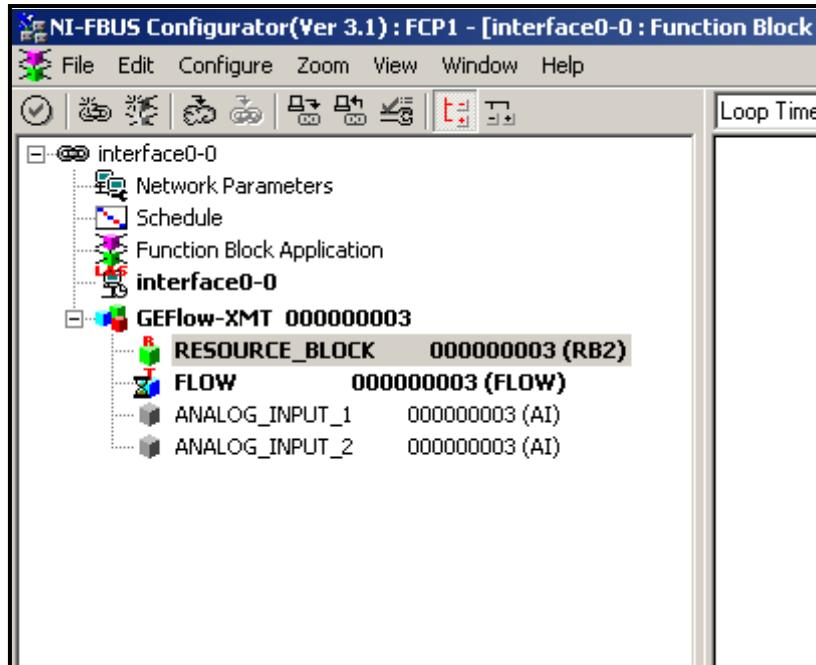

Figure 40: Configuration Utility Setup Example
Figure 40 shows the Configuration Utility with a flowmeter on the network (Panametrics Flow-XMT).
1. Double click on the AI block for which you wish to set the units (ANALOG_INPUT_1 or ANALOG_INPUT_2 in the tree under GEFflow-XMT; see Figure 40 on page 98).
1. Double click on the FLOW transducer block (in the tree under GEFLOW-XMT; see Figure 40 on page 98).